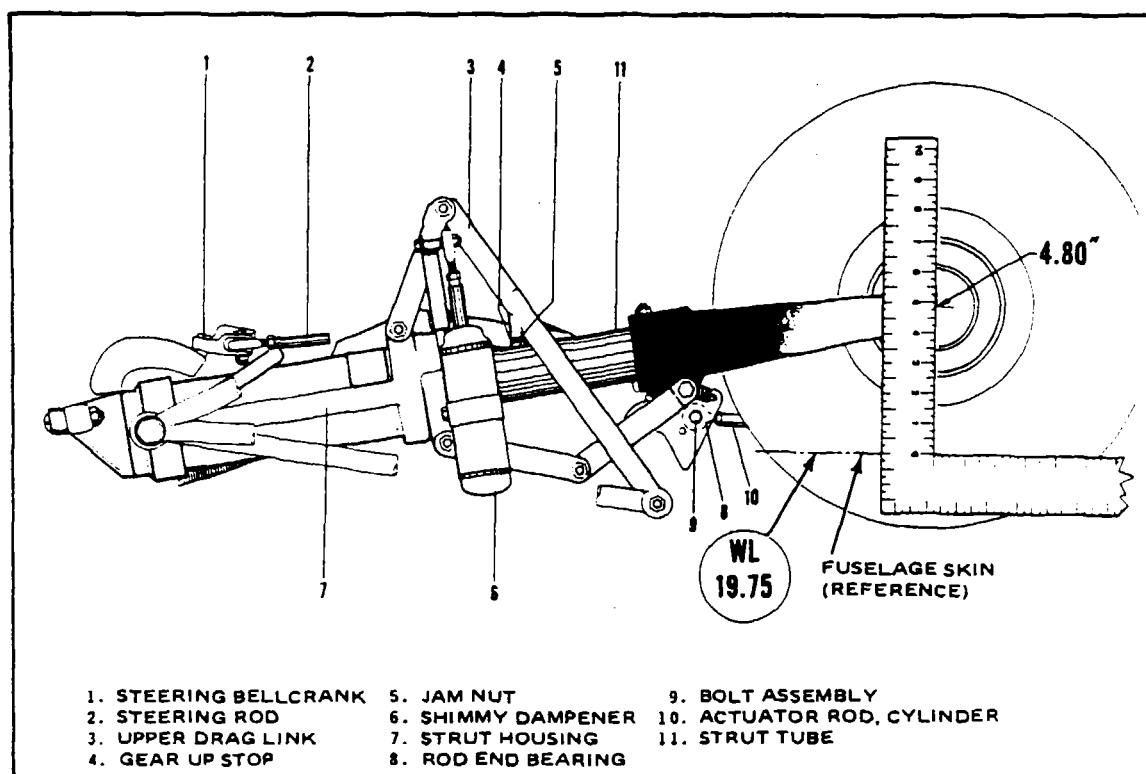

Figure 7-3. Nose Gear Adjustment
7-12. ADJUSTMENT OF NOSE LANDING GEAR. (Refer to Figure 7-3.) The gear up stop (4) is located on under side of upper drag link (3).
- d. Check the adjustment of the gear up stop by placing a carpenter's square with the longest end along the bottom of the fuselage, and the shortest end running up through the centerline of the wheel axle. Measure up along the square from the bottom of the fuselage 4.80 inches, to determine if the center of the wheel axle meets this measurement. If this measurement is incorrect, extend the gear, loosen the jam nut (5) on the gear up stop, and make the required adjustment by turning the stop.
- f. Recheck all adjustments and retighten the jam nut on the gear up stop. When the gear is fully retracted, the strut tube (11) should be firmly against the gear up stop. Extend the gear.